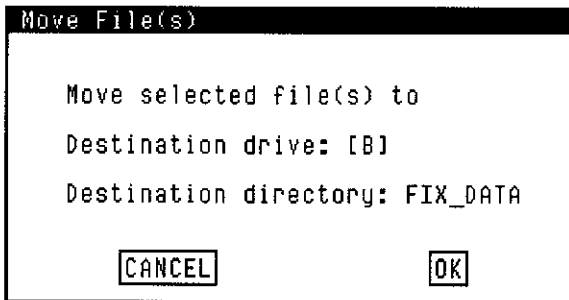

Figure 8-5. Move File(s) Window
4. Click on <Move>. The Move File(s) window, Figure 8-5, is displayed. Input the drive and directory where the file(s) are to be moved. Then click on [OK] to move the selected file(s) and remove the Move File(s) window from the display.